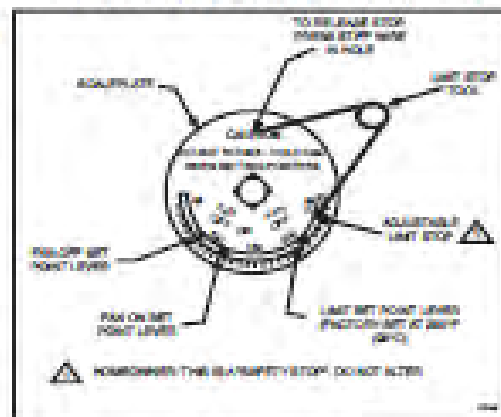

Fig. 10 - Changing the high limit stop.
All wiring must comply with local electrical codes and ordinances or in the absence of local codes with the National Electrical Code ANSI C1-1981-NFPA 70. Follow burner or furnace manufacturer's instructions if available; otherwise, see Fig. 10 and proceed as follows:
When adjusting the fan and limit set point levers (Fig. 10), hold the scaleplate dial to keep it from turning and straining the sensing element. Move each indicator lever to the control point recommended by the burner or furnace manufacturer. Use gentle finger pressure.
1. Push the small end of Limit Adjust Tool (196722) through hole in scaleplate (located at caution marking) to depress the stop disc, not more than 1/16 in. (1.5 mm) to release stop lock (Fig. 10). Stop disc is on back of scaleplate.
2. While depressing the stop disc, insert the long end of Limit Adjust Tool next to limit stop (Fig. 10) and move the stop to desired setting. *If the L-4084 is a replacement control, high limit stop setting should be the same as that of the control being replaced.* (Move stop clockwise ⤴ to lower the setting; counterclockwise ⤵ to raise it.) Then remove the limit stop adjust tool.